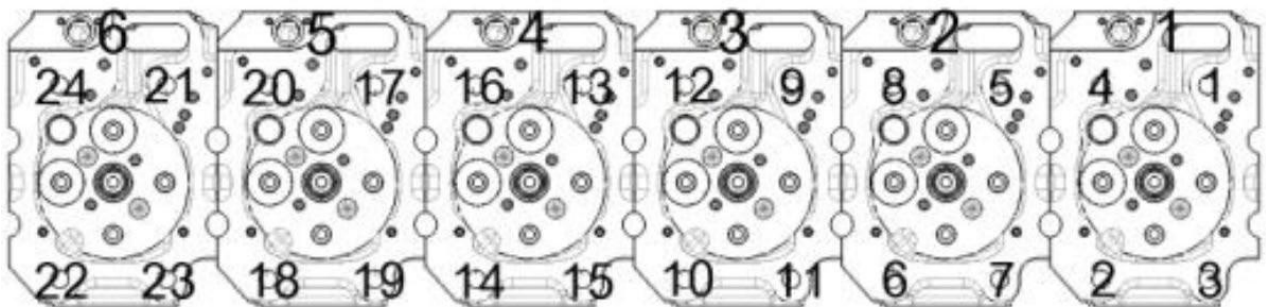

Figure 74. Main Bolt Torquing Order
4. Tighten the main bolts in order (Figure 74) 1 through 24 to a torque of 80 N·m.